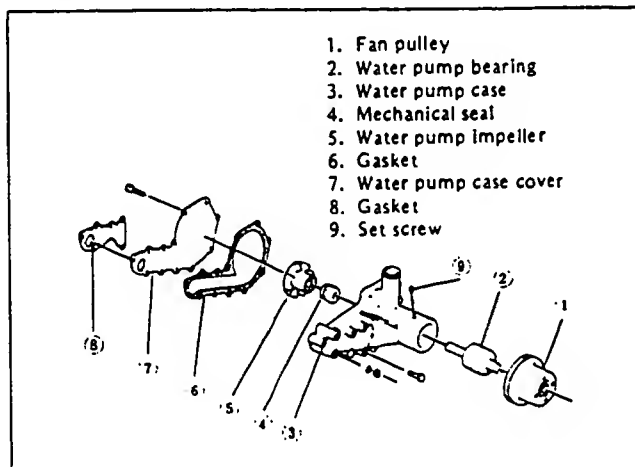

Figure 1. Water Pump Exploded View
4. See Figure 1. Remove the IMPELLER and MECHANICAL SEAL from the casing.